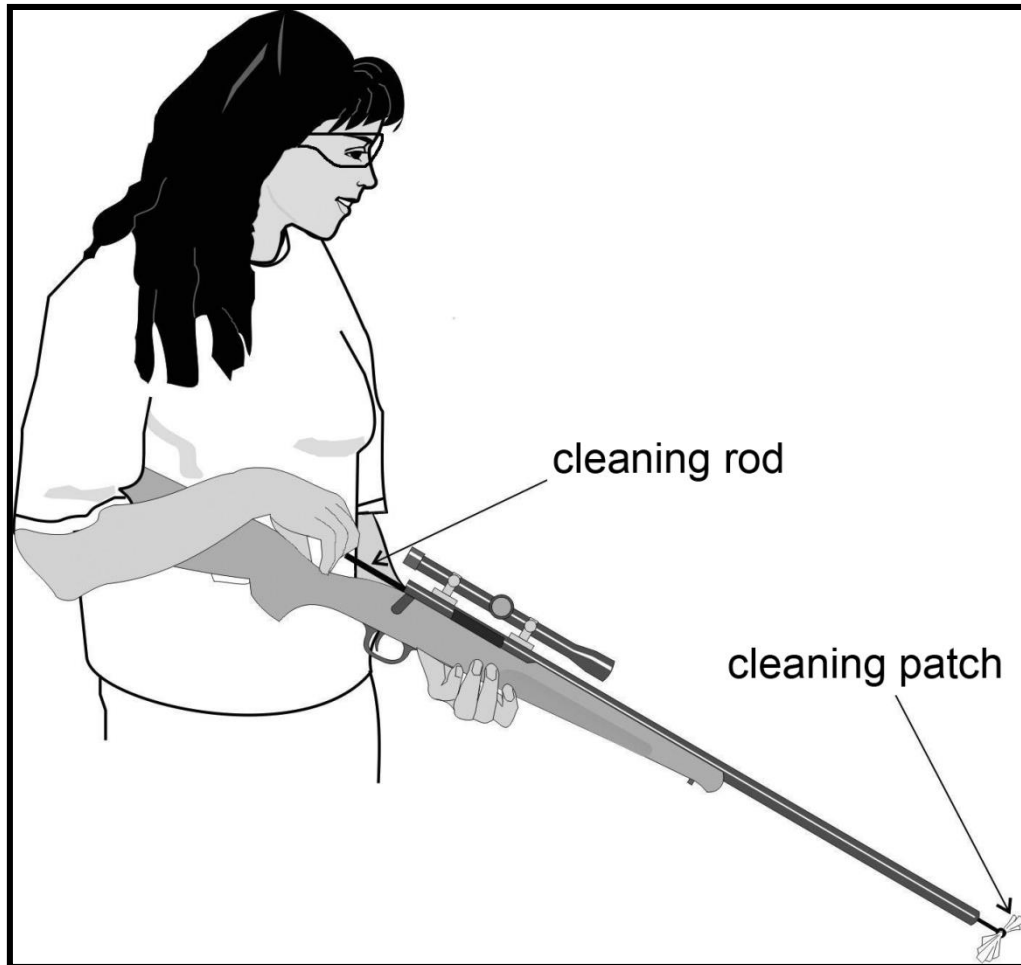

Figure 78. Cleaning a Rifle Barrel from the Breech to the Muzzle
- b. If possible, clean your firearm from the breech toward the muzzle. Avoid cleaning from the muzzle toward the breech (Figures 78 and 79).
3. Run the brush through the bore of the firearm barrel several times. Be sure that the brush sticks out from the barrel completely. Then, draw it back through the barrel (Figure 78).